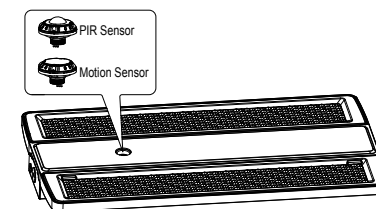

Figure 11
- Step 2. Twist-lock the DC sensor to the base to make it work properly, use a remote control to adjust the working mode as per demand. (Figure 11)